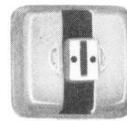

Fig. 2—724A Wire Removal Tool
5.01 Remove the cross-connection wire from the defective terminal, using the 724A removal tool (Fig. 2). At the rear of the block, remove the cable wire, using the KS-20827 wire-unwrapping tool.